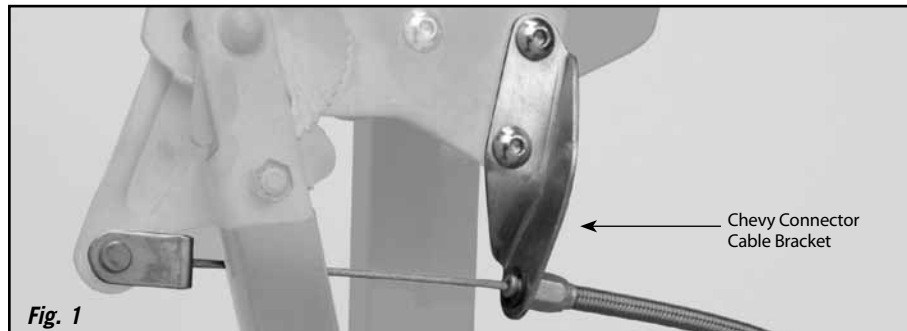

Fig. 1
Step 2: Install brake cable housing and Chevy connector cable bracket to hand brake mechanism under dash as shown in **Fig. 1**.